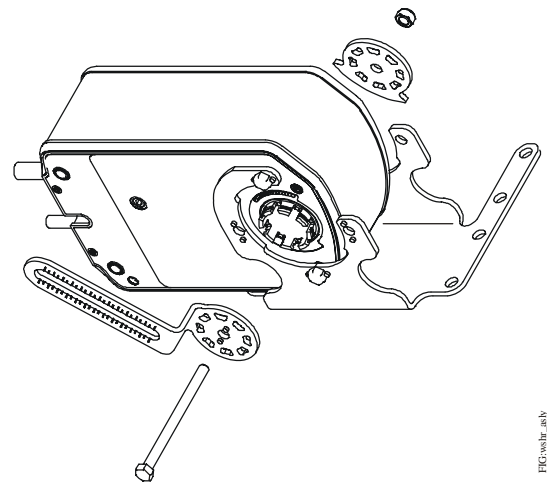

Figure 5: Actuator Crankarm with Washer Assembly
5. Install the crankarm and washer using the M5 cap screw and nylon insert hex nut, as shown in Figure 5. The raised buttons on the crankarm are used for anti-rotation of the cap screw, allowing installation with only one wrench. Install the M5 nylon insert hex nut using the recommended torque of 1.7 to 2.3 N-m (15 to 20 lb-in.).